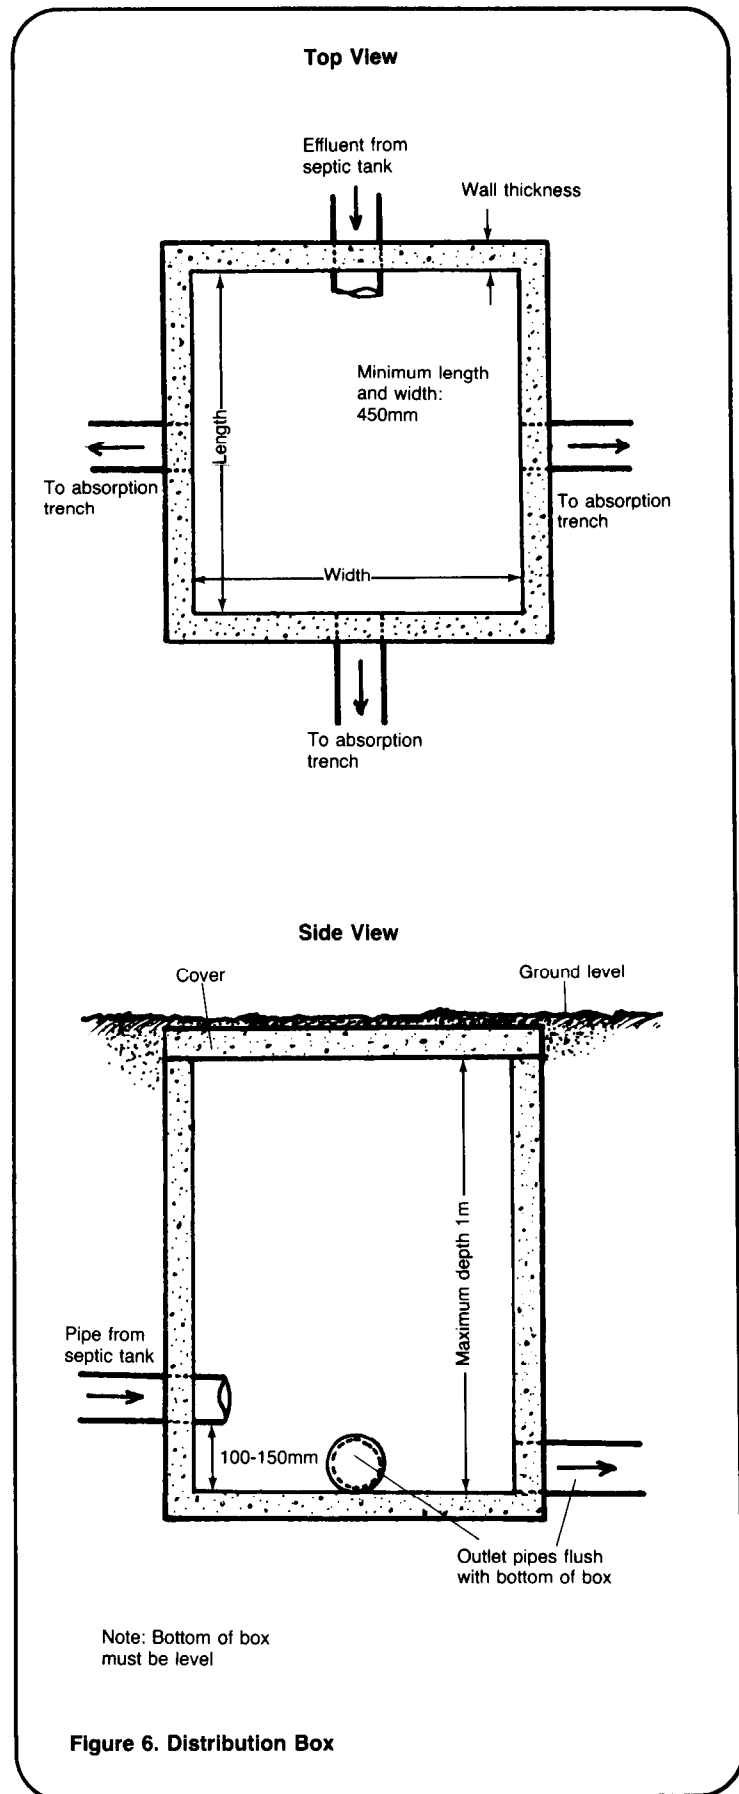
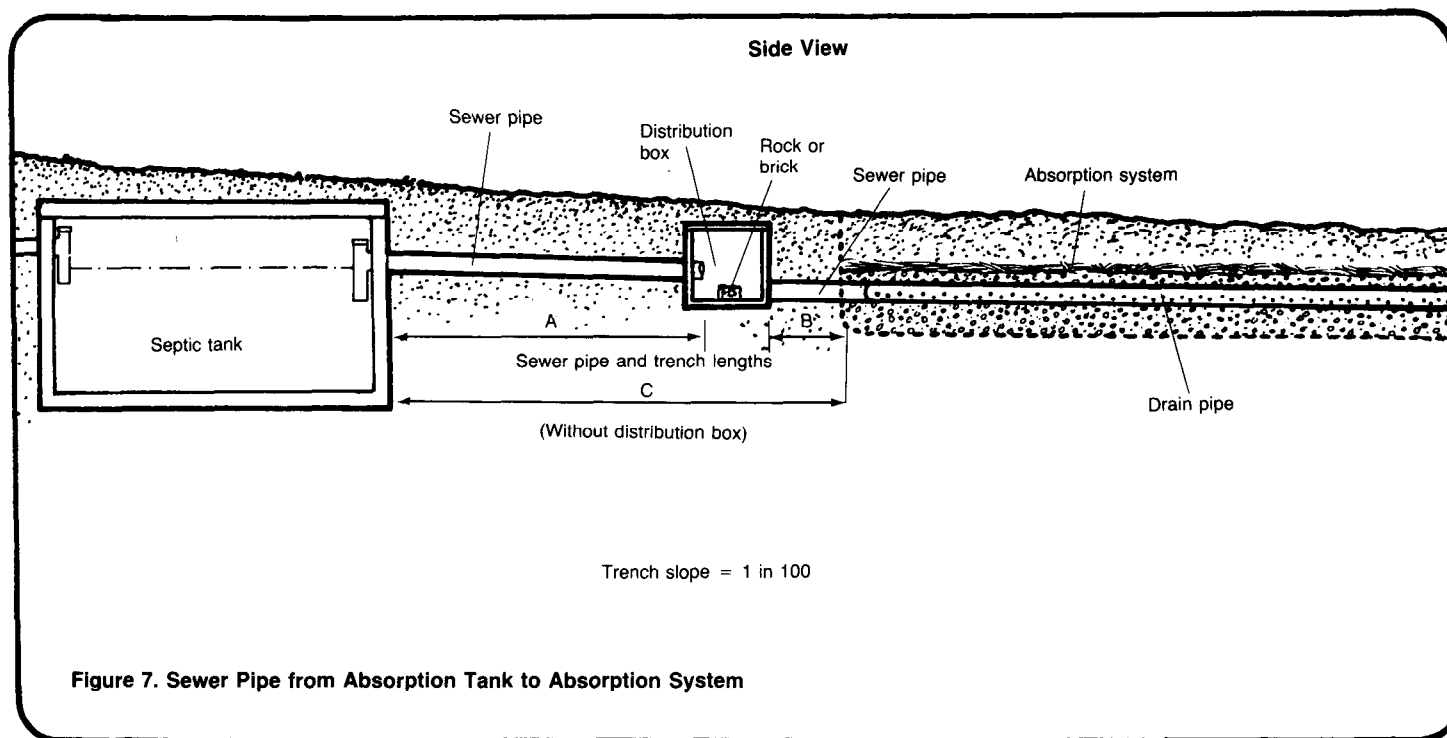

Figure 6. Distribution Box
Figure 7. Sewer Pipe from Absorption Tank to Absorption System
If you are designing a distribution box, prepare a technical drawing similar to Figure 6, showing the width, length, and depth of the box, the distance from inlet pipe to floor, and the thickness of the walls if they are concrete. Give this drawing to the construction supervisor before construction begins.
Prepare a technical drawing similar to Figure 4 showing top and side views of the field with the correct dimensions written in. Also, prepare a technical drawing similar to Figure 6, showing the width, length, and depth of the distribution box, the distance from the inlet pipe to the floor, and the thickness of the walls if they are concrete. Give both these drawings to the construction supervisor before construction begins.
Prepare a drawing similar to Figure 7 and write in the correct trench width, depth, and slope; the pipeline length from the septic tank (see "Designing Septic Tanks," SAN.2.D.3) to the distribution box, if any; and from the box to the absorption system. Give this drawing to the construction supervisor before construction begins.
In summary, give the construction supervisor: (1) a location map similar to Figure 1, showing the absorption system in relation to all nearby man-made structures and geological features; (2) technical drawings similar to Figure 7 (for all systems), Figure 2 (for a trench system), Figures 2 and 3 (for a series of trenches), Figure 4 (for a field system), Figure 5 (for a pit system), and Figure 6 (if there is to be a distribution box); and (3) a materials list similar to Table 2 showing labor, materials, tools, and money needed to construct the system.